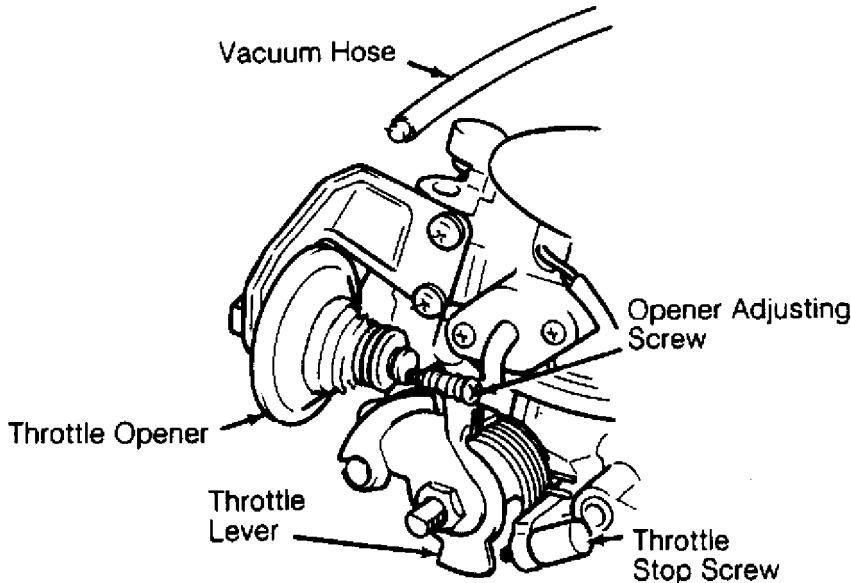

Fig. 10: Adjusting Throttle Opener (Samurai & Sidekick TBI)
2) Engine speed should increase to 2150-2250 RPM when vacuum hose is removed from throttle opener. If engine speed is not within specification, adjust by turning throttle opener adjusting screw. See Fig. 10. Reconnect vacuum hose when adjustment is within specification. See THROTTLE OPENER SPECIFICATIONS table.
2) Engine speed should increase to 2100-2300 RPM when vacuum hose is removed from throttle opener. If engine speed is not within specification, adjust by turning throttle opener adjusting screw. See Fig. 10. Reconnect vacuum hose when adjustment is within specification. See THROTTLE OPENER SPECIFICATIONS table.
1) Disconnect TPS connector. Using hand vacuum pump, apply 20 in. Hg vacuum to throttle opener to move throttle lever to idle position. Using ohmmeter, check resistance between upper and lower terminals of TPS connector with proper shim thickness gauge inserted between throttle valve lever and stop screw. See Fig. 10. See THROTTLE POSITION SENSOR (TPS) RESISTANCE table.
1) Disconnect TPS harness connector and throttle opener vacuum hose. Using hand vacuum pump, apply 20 in. Hg vacuum to throttle opener to move throttle lever to idle position. Insert .012" (.30 mm) shim thickness gauge between throttle lever and throttle stop screw. See Fig. 10.